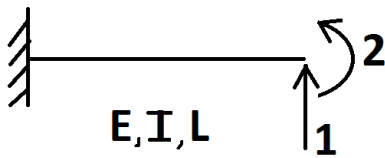

Fig. 1.
28. Using the basic definition of stiffness Coefficient derive the stiffness matrix for the beam shown in fig.1